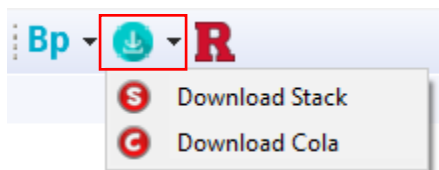

Figure 28: Download Stack/Cola Application (See Toolbar)
- Now download Stack and COLA application to the target DUT (Figure 28).